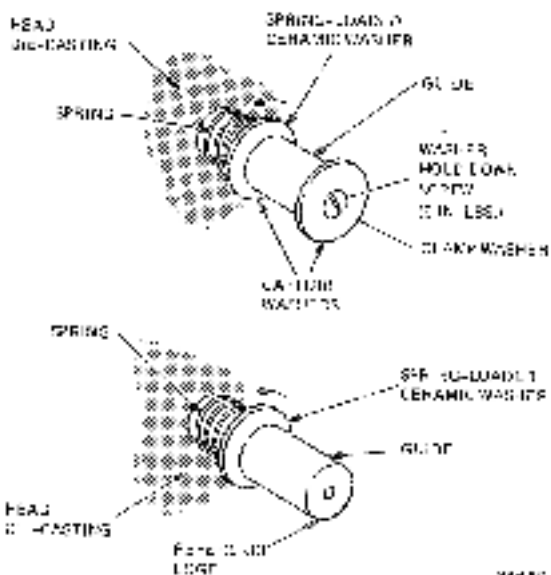

Figure 5-3 Tape Path Guide
2. Adjust gimbal screw no. 2 (Figure 5-2) until the tape rides in line with both the upper and lower fixed guide reference edge (Figure 5-3).